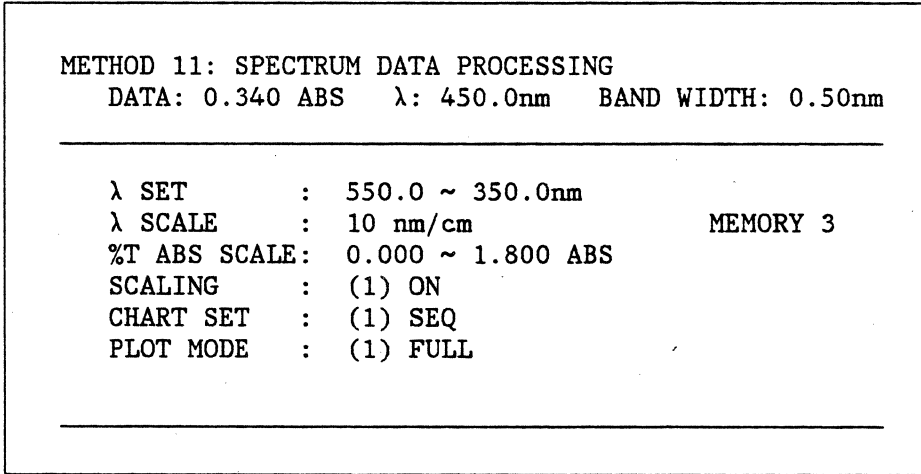

Figure 9-2. CRT Display of a Parameter List
Each spectrum stored in memory has an associated list of parameters. These parameters can be displayed on the CRT, as shown in Figure 9-2.
- b. Press the **Display List** key. The spectrum will be erased, and the parameters associated with it will be displayed, as shown in Figure 9-2.